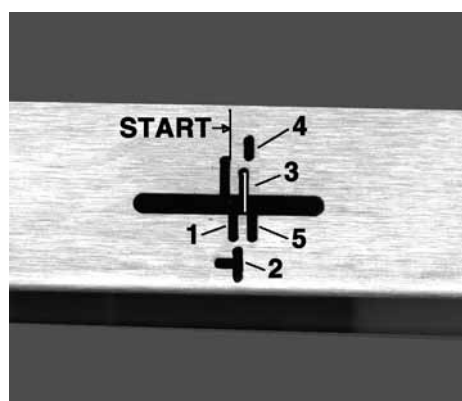

Figure 4; Carlisle Tension-Finder™ on a V-belt. (Carlisle Part No. 108039-A)
- Tension the belt until the scribe line from Step 4 is displayed in the designated slot of the Tension-Finder as determined in Step 7. See Figure 4.